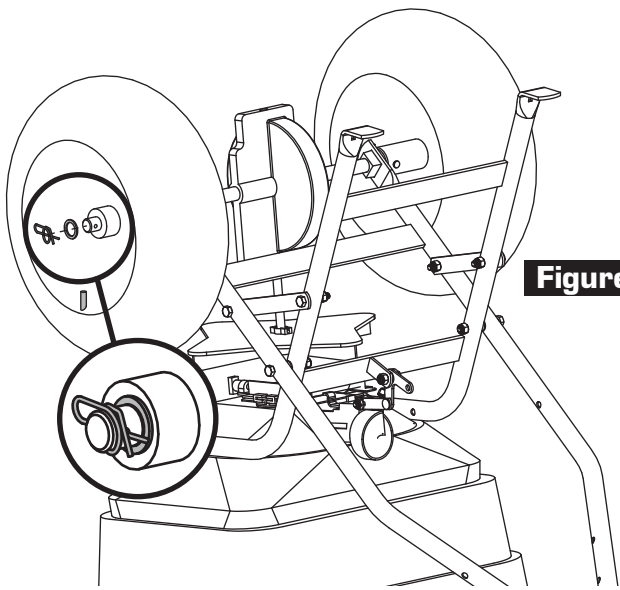

Figure 6
6. Install Wheel on the opposite side of the Axle (valve stem out) until it touches Axle Bearing and Washer. Install Washer onto Axle. Push Rue Ring Locking Pin through Axle hole. **NOTE: Rue Ring Locking Pin will snap into position as shown in Figure 6.** Turn Spreader assembly over and place on ground.